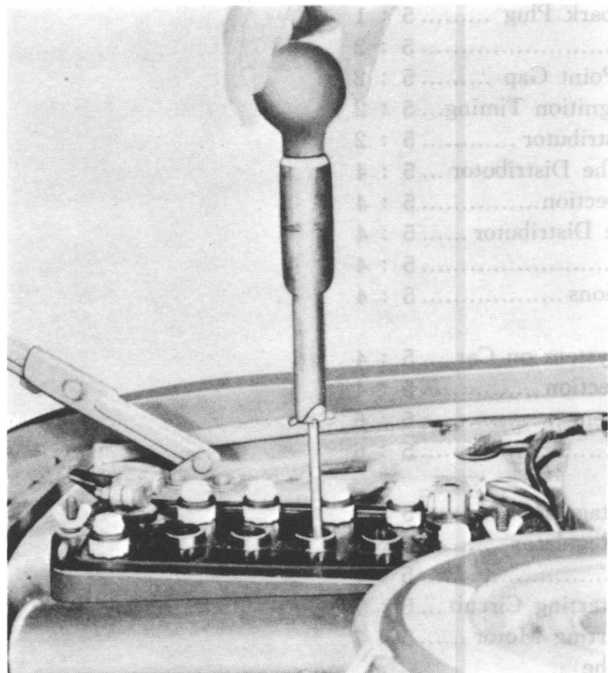

Fig. 5-1 Checking specific gravity
2. Check the specific gravity of the electrolyte with a hydrometer, as shown in Fig. 5-1. The reading should be 1.25 or more, it indicates a perfect condition.
2. Check the specific gravity of the electrolyte with a hydrometer, as shown in Fig. 5-1. If the reading is 1.26 or more, it indicates that the battery is fully